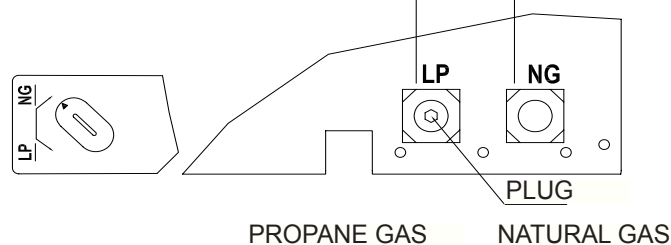

Fig. 15
2. For NATURAL GAS, press knob using a flat screw driver with a blade the thickness of a quarter and turn knob clockwise  until the knob locks into the NG position (see Figure 15). Fuel selection device must be locked in the NG position. Do not operate heater between locked positions!